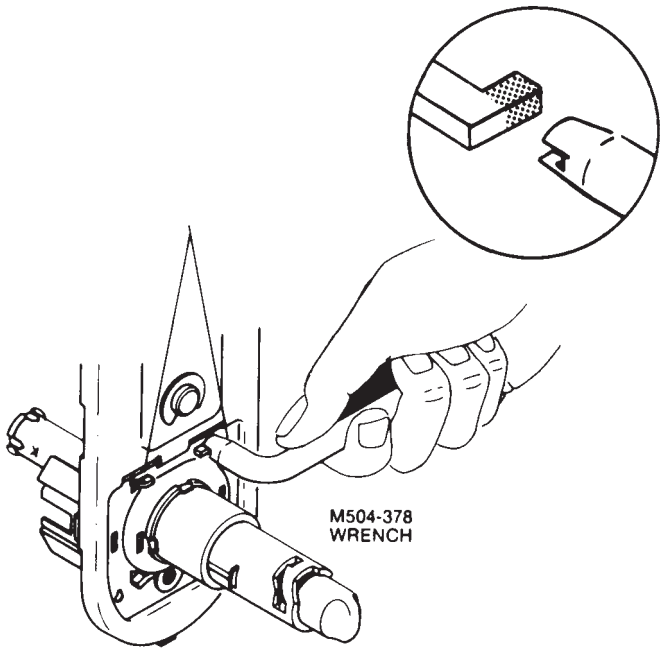

Figure 13.77 Changing hand, Step 8.
8. Bend the tabs to secure the mounting plate (Fig. 13.77).